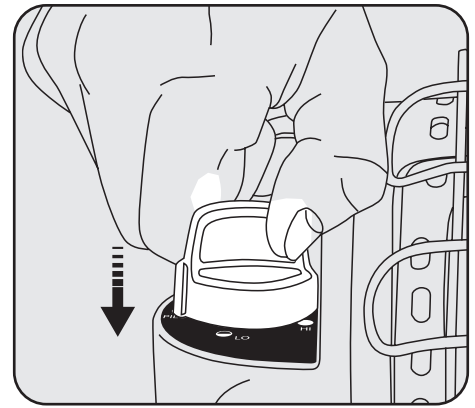

Figure 3
4. Turn Control Knob counterclockwise to "PILOT" position and depress to light. See Figure 3.
6. Turn Control Knob counterclockwise to "PILOT" position and depress to light. See Figure 3. This may take longer to purge air from the supply hose depending on the length of the hose being used.